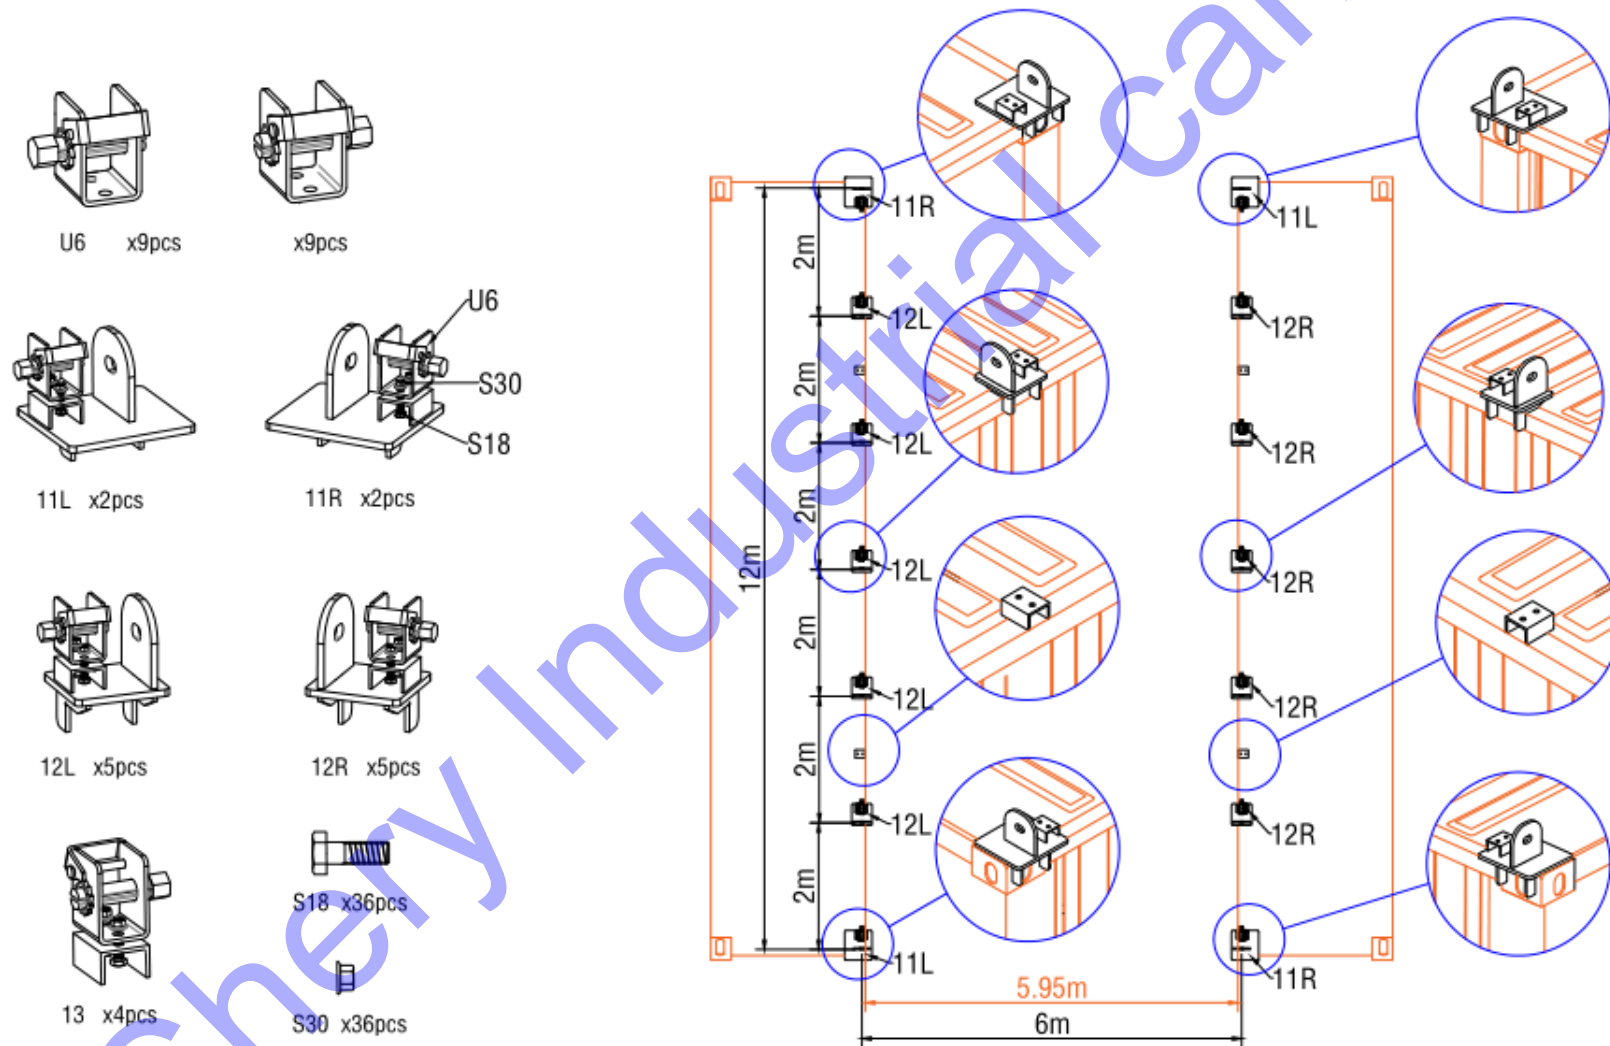

Figure 1
B. **Measure diagonally from centre to centre of the tubes.** These measurements should be the same as below Figure 1 shows. **Base plates (11L/11R/12L/12R) must be fully welded inside and outside. Part no.13 doesn't need to be welded in advance. The welding position can be determined according to the strap position of the roof cover when the roof cover is installed.**